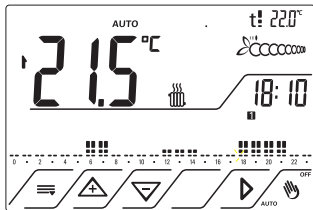
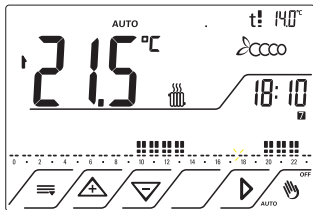

Fig.5
Fig.6
- Heating program from Monday to Friday fig.5 and from Saturday and Sunday fig.6.